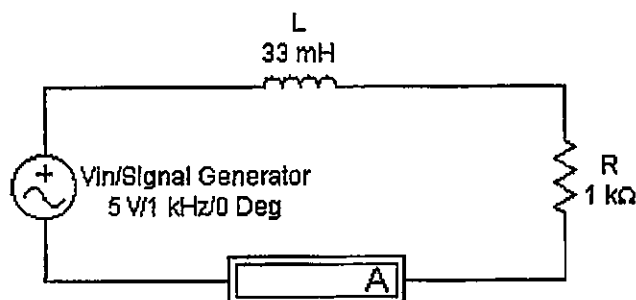

Fig 6.2
7- Connect the circuit of Figure 6.2.
- 15- Disconnect the current meter from the circuit of Figure 6.2.
- 16- Connect channel (1) of the scope across the source of the circuit, and channel (2) between the inductor and the resistor of the same circuit, notice that the two channels have the same reference point.